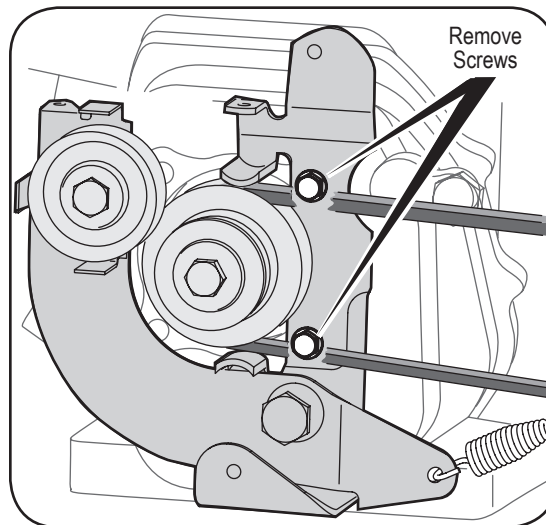

Figure 5-5: Bracket screw removal.
4. The forward idler belt will not clear the belt keepers near the engine pulley. You must remove the reverse idler bracket to allow the belt to move off of the engine pulley. Remove the two securing screws and move the bracket toward the transmission pulley. Retain the screws for reassembly. See Figure 5-5.